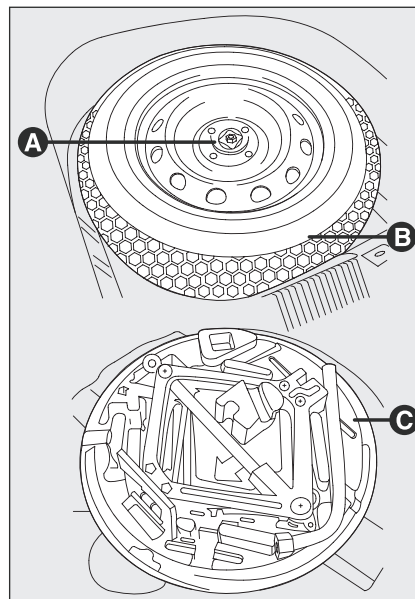

fig. 2
- fit the jack partially open in its box **C-fig.2** forcing it lightly to prevent it from vibrating when traelling;
- stow the container **C-fig.2** complete with tools;
- tight the fastener **A-fig.2**;